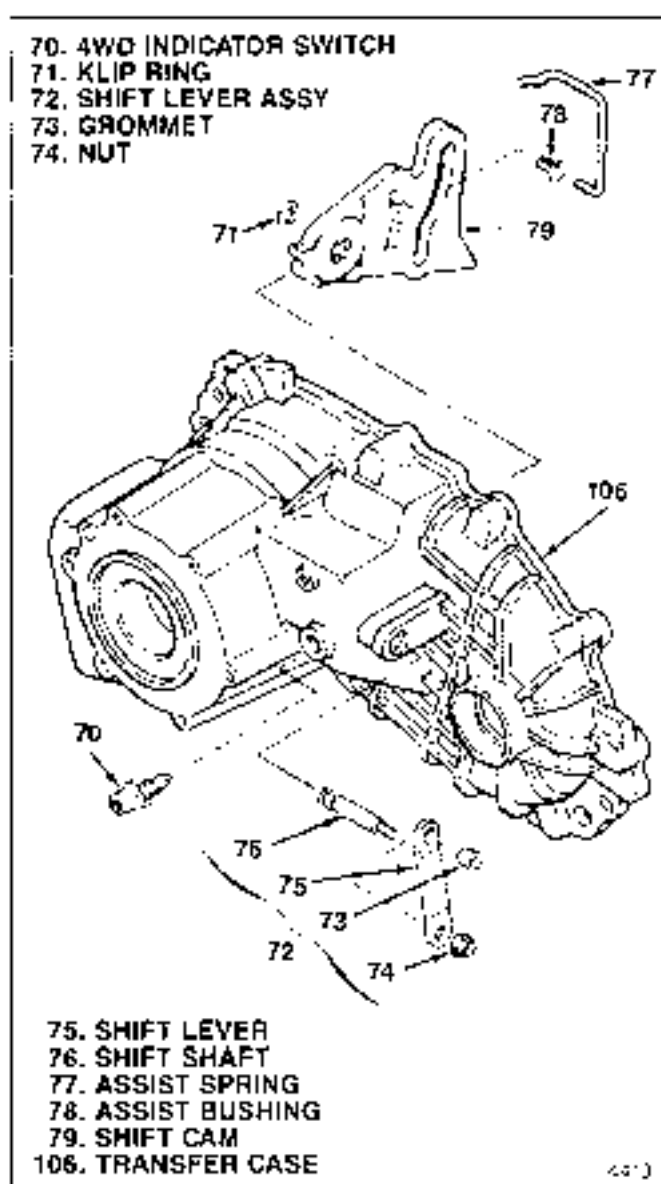

Figure 3-9. Shift Cam Parts
- Remove reduction hub (62) and reduction shift fork assembly (63) from transfer case.
- Remove two facings (64) from shift fork assembly (63).
- Remove pin, roller and retainer assembly (65) from reduction fork (69) only if damaged. Then, cut off lip of plastic retainer (66) that projects through fork (69). Remove and discard roller (67) and pin (68) as well as retainer.
**3-14. REMOVAL OF SHIFT CAM PARTS.** Remove the following (see figure 3-9):
- Remove 4WD indicator switch (70).
- Remove klip ring (71) and shift lever assembly (72).
- Remove grommet (73) from shift lever assembly (72).
- If necessary for parts replacement, remove nut (74) and shift lever (75) from shift shaft (76).